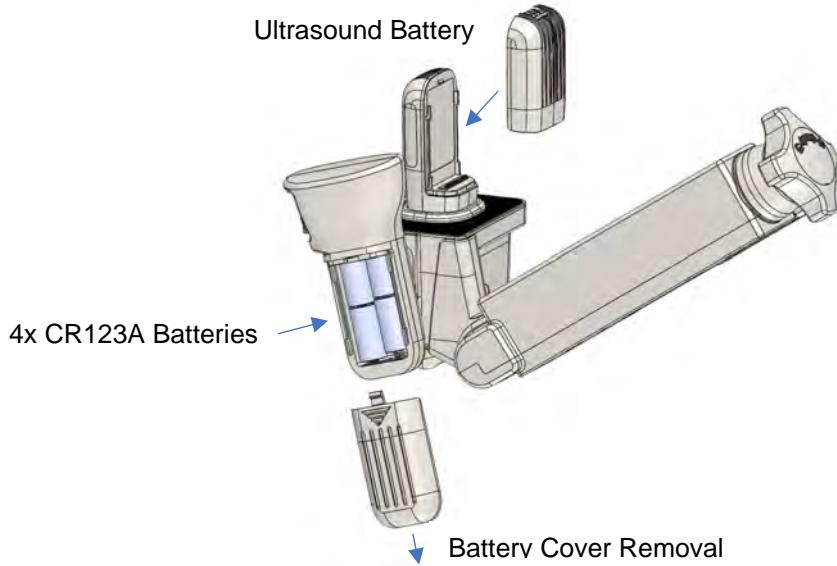

Figure 2. Battery Installation in CERTA Access Device.
3. Ensure the batteries are fully charged as indicated on the battery chargers and install in the CERTA Access Device Handle and Integrated Ultrasound Probe respectively (Figure 2).